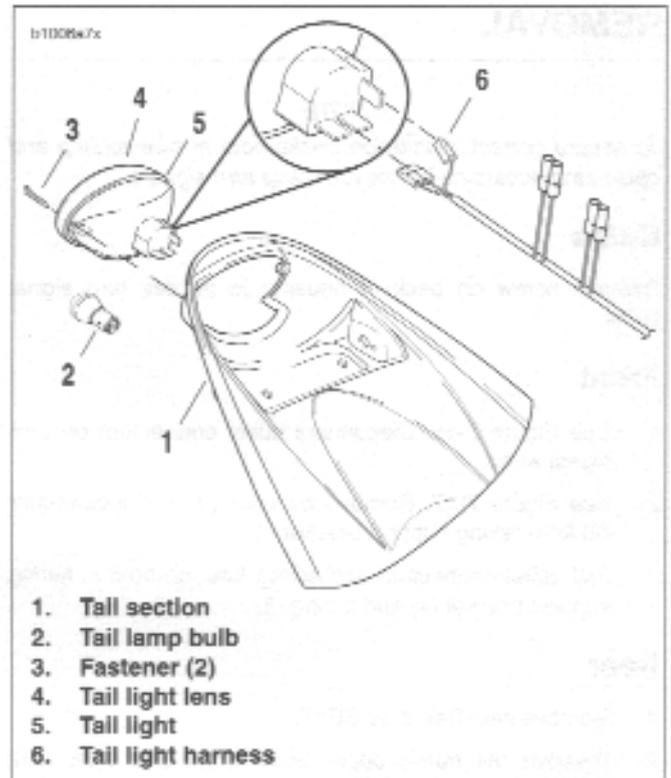

Figure 7-45. Tail Lamp Assembly
1. See Figure 7-45. Remove two screws (3) to detach tail light lens (4) and tail light (5). If replacing bulb (2), turn counterclockwise and remove.
3. Disconnect two connectors [93] from tail lamp harness (6).
1. See Figure 7-45. Attach the two tail light harness connectors [93] (6).
2. If removed, install tail lamp bulb (2).
- b. Install tail light lens (4) and tail light (5) with two fasteners (3).